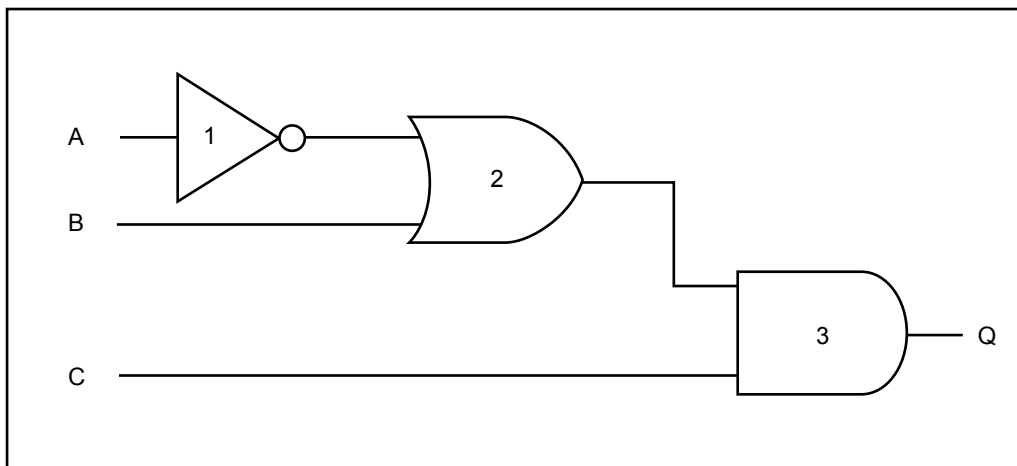

Figure 10
a. Identify the gate types in Figure 10.
b. Complete the following truth table for the logic circuit in Figure 10 by